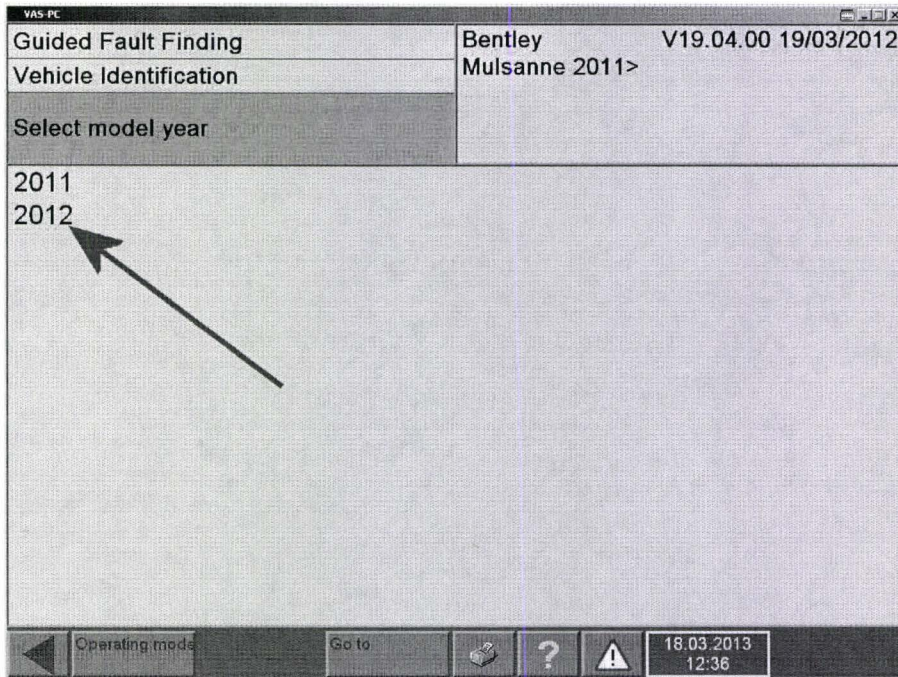

Figure 5
9. Select appropriate year **NOTE:** For 2012 and 2013 M/Y vehicles please select 2012 as shown in Figure 5